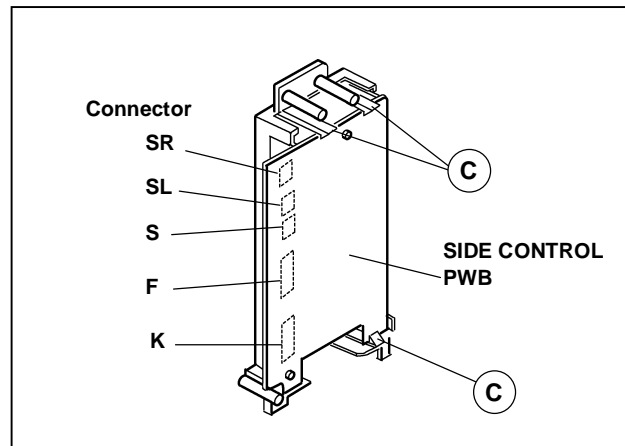

Fig. 2
3. Disconnect the connector "SR", "SL", "S", "F" and "K" as shown in Fig.2.
1. Remove the 3 claws "C" from back side of the side control jack assembly as shown in Fig.2.